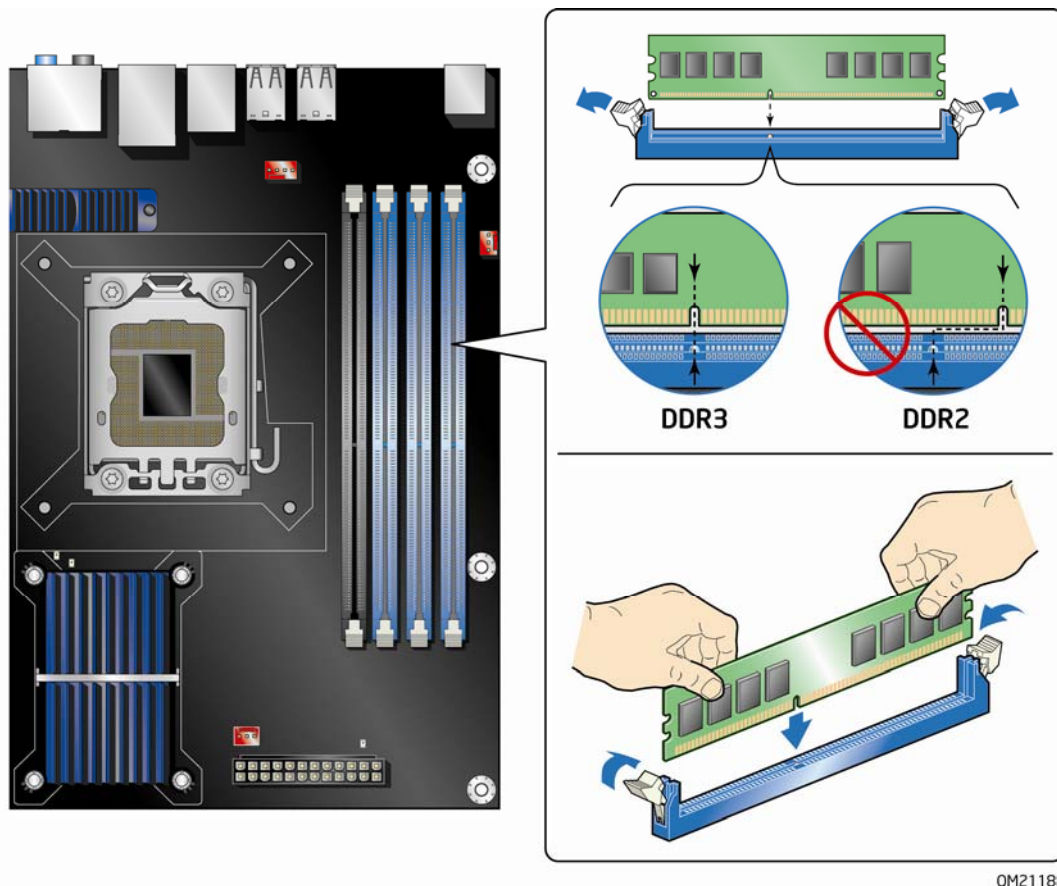

Figure 22. Installing a DIMM
3. Remove the computer's cover and locate the DIMM sockets (see Figure 22).
6. Position the DIMM above the socket. Align the small notch at the bottom edge of the DIMM with the keys in the socket (see inset in Figure 22).